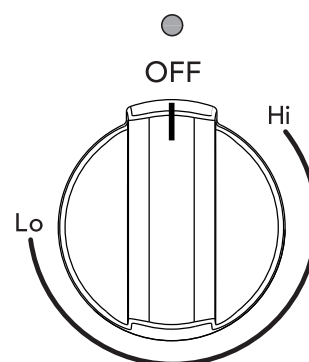

Figure 8: Keep warm knob
1. Push in the knob and turn in either direction (see Figure 8). The temperatures are designated by hi and lo. However, the control can be set at any position between hi and lo for different levels of warming.